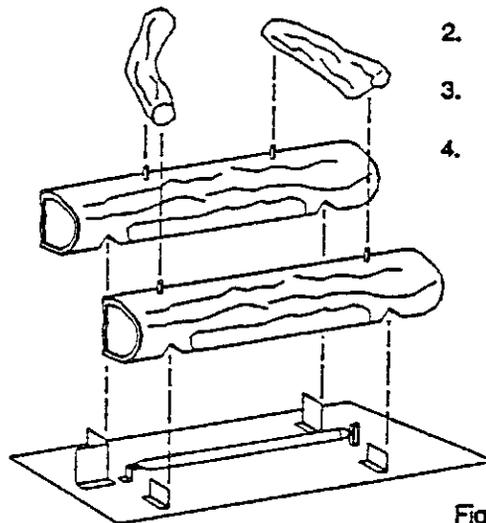

Fig. 8
3. Place smaller top logs on flat spots of bottom logs as shown in Figure 8.